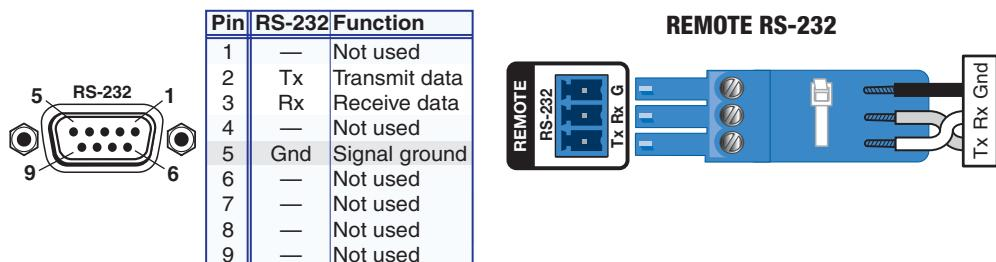

Figure 6. Remote Port Pin Assignments and Wiring Diagram
④ **Remote RS-232 port** (see figure 2 on page 6) — Connect a host device, such as a computer or touchpanel controller, to the rear panel bidirectional RS-232 port (see figure 6 for wiring). The default baud rate is 9600.